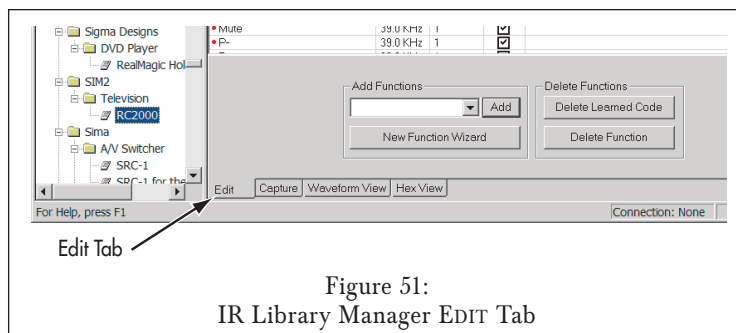

Figure 51:
2. Click on the EDIT tab. The remote's functions will appear in the main part of the screen (see *Figure 51*).